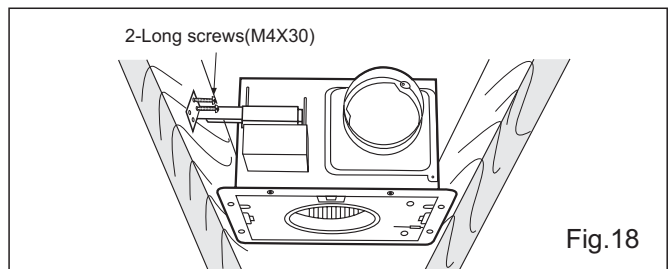

Fig.18
4. Secure the suspension bracket to joists by using long screws (M4X30) (Fig.18, Fig. 19 of page 11)